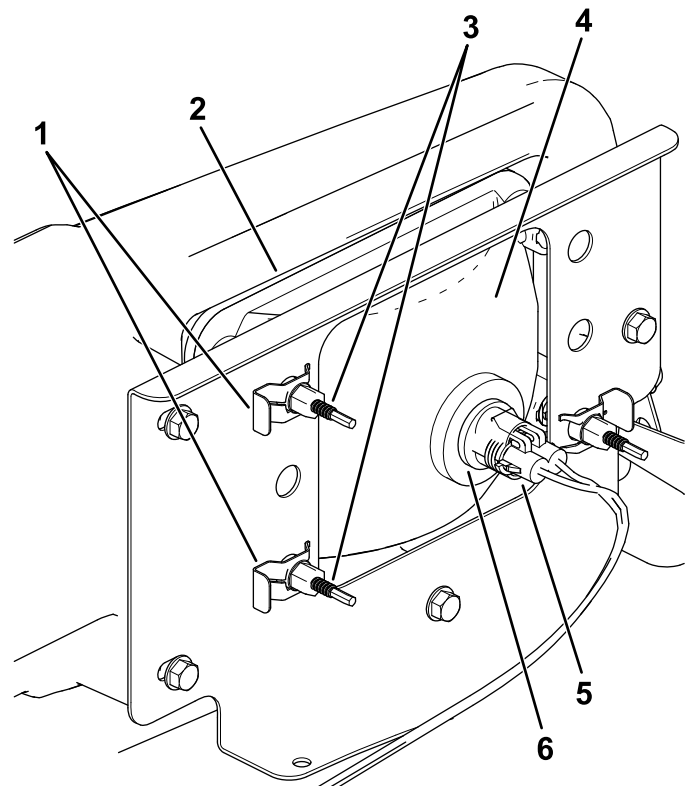

Figure 43
4. Remove the speed clips that secure the headlight to the headlight bracket (Figure 43).
5. Remove the headlight assembly by moving it forward through the opening in the front bumper (Figure 43).
6. Install the new headlight through the opening in the bumper (Figure 43).
8. Connect the electrical connector for the harness to the connector of the lamp assembly (Figure 43).
3. Disconnect the electrical connector for the harness from the connector of the lamp assembly (Figure 43).
5. At the back of the headlight assembly, rotate adjustment screws (Figure 43) to pivot the headlight assembly and align the position of the cast beam.